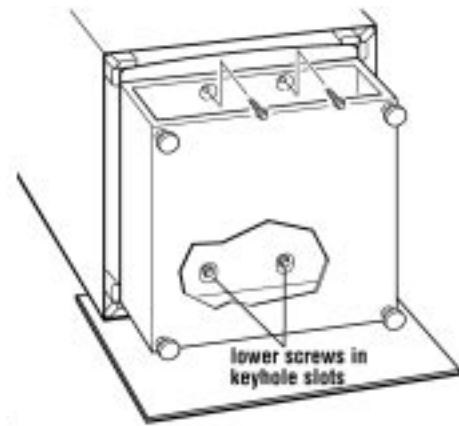

Fig. 2-5
5. Move the pedestal against the washer bottom. Slide the pedestal's keyhole slots over the lower two (2) partially installed screws. (Fig. 2-5)